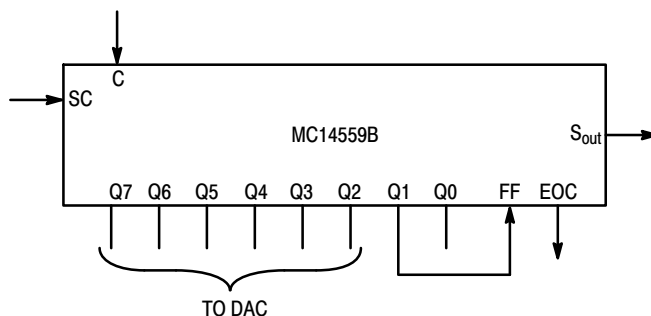

Figure 2. Externally Controlled 6-Bit ADC
**Externally Controlled 6-Bit ADC (Figure 2)**